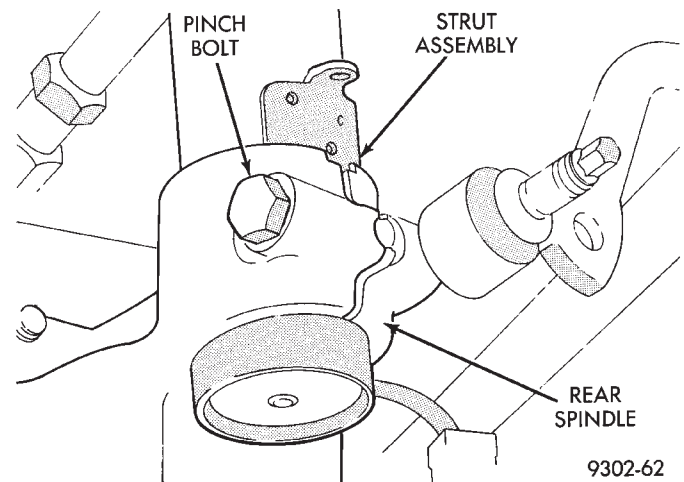

Fig. 6 Spindle To Strut Assembly Pinch Bolt
(8) Loosen and fully remove, the rear spindle to strut assembly pinch bolt (Fig. 6).